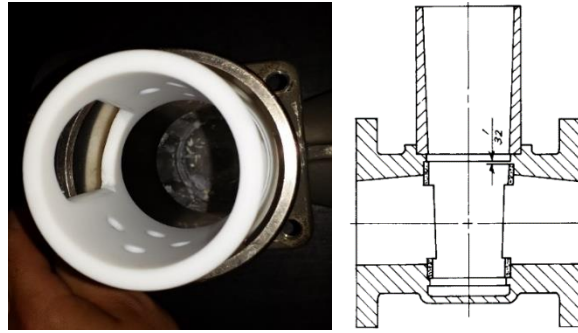

Figure 8.8.1
- a. Align the sleeve in the coining die with the waterway, then rotate the coining die and sleeve clockwise to position the sleeve in the coining die so that the diagonal opposite sides of one side of the sleeve port will lock behind the metal lips in the body. (The other diagonal opposite sides will be locked in after insertion). See Figure 8.8.1.